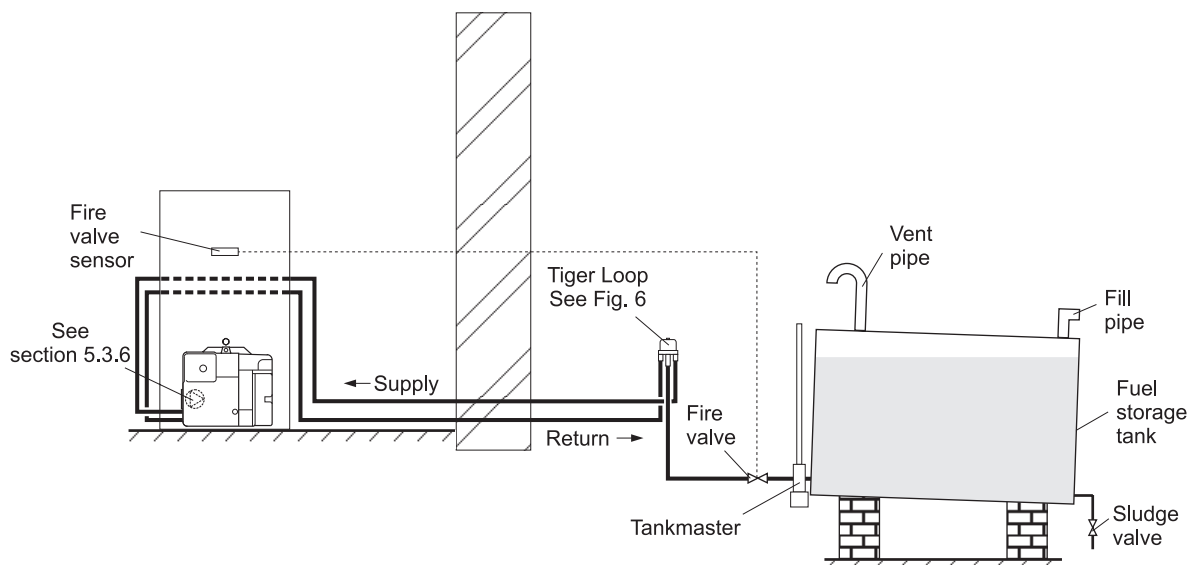

Fig. 7 - Tiger loop system
5.3.5 Tiger Loop system - (See Figs. 7 and 8)
- 2 The Tiger Loop is connected close to the boiler as a two pipe system (omitting the non-return valve) as shown in Fig. 7. Refer to the manufacturers instructions supplied with the Tiger Loop. The Tiger Loop **must** be mounted vertically.